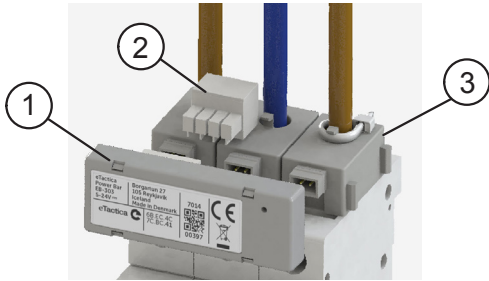

Fig. 5: Attaching the Linked Current Sensors to the Power Bar
- ▶ Attach the Power Bar (pos. 1 in Fig. 5) to the linked current sensors (pos. 3 in Fig 5) and the Molex connector (pos. 2 in Fig. 5).